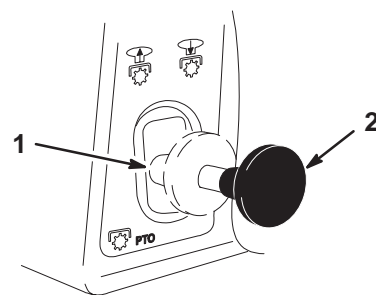

Figure 19
- Pull the power take off (PTO) to the **on** position (Fig. 19).
1. Push the power take off (PTO) to the **off** position (Fig. 19).